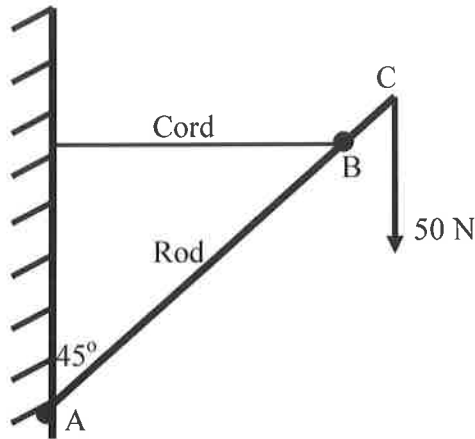

Figure Q9
9. A uniform rod ABC is 1.2 m long, weighs 150 N and is inclined at 45° as shown in Figure Q9. The rod is supported by means of a hinge fastened to the wall at A, and is held by a horizontal cord at B, which is 0.2 m from C. If a load of 50 N is suspended from C, determine the force in the cord and hence draw the shear force and bending moment diagrams for the rod, indicating all significant points.